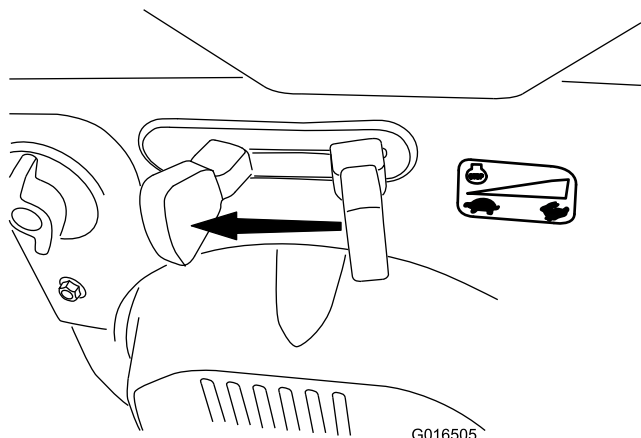

Figure 32
1. Move the throttle to the SLOW position, and then to the STOP position (Figure 32) to shut off the engine. You can also shut off the engine by pulling the ignition key outward to the middle position.